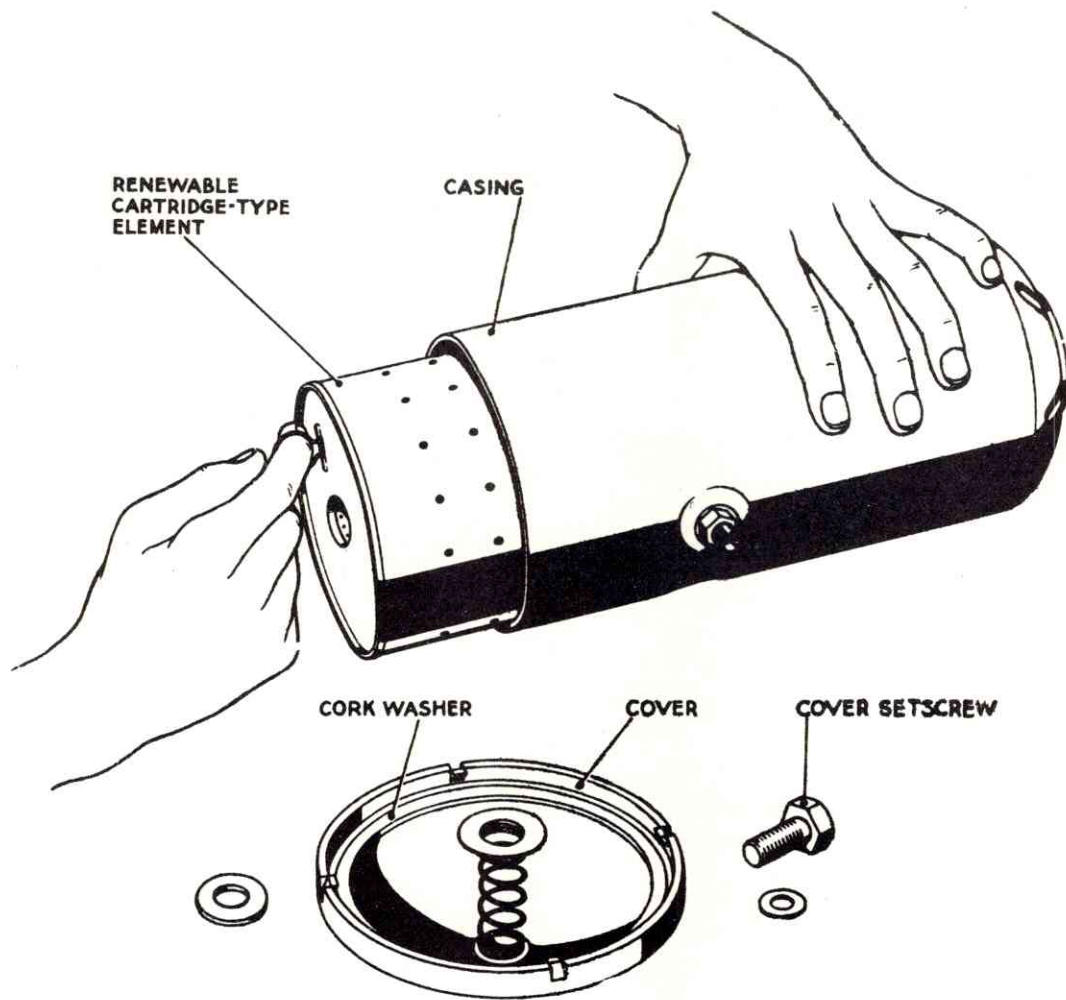
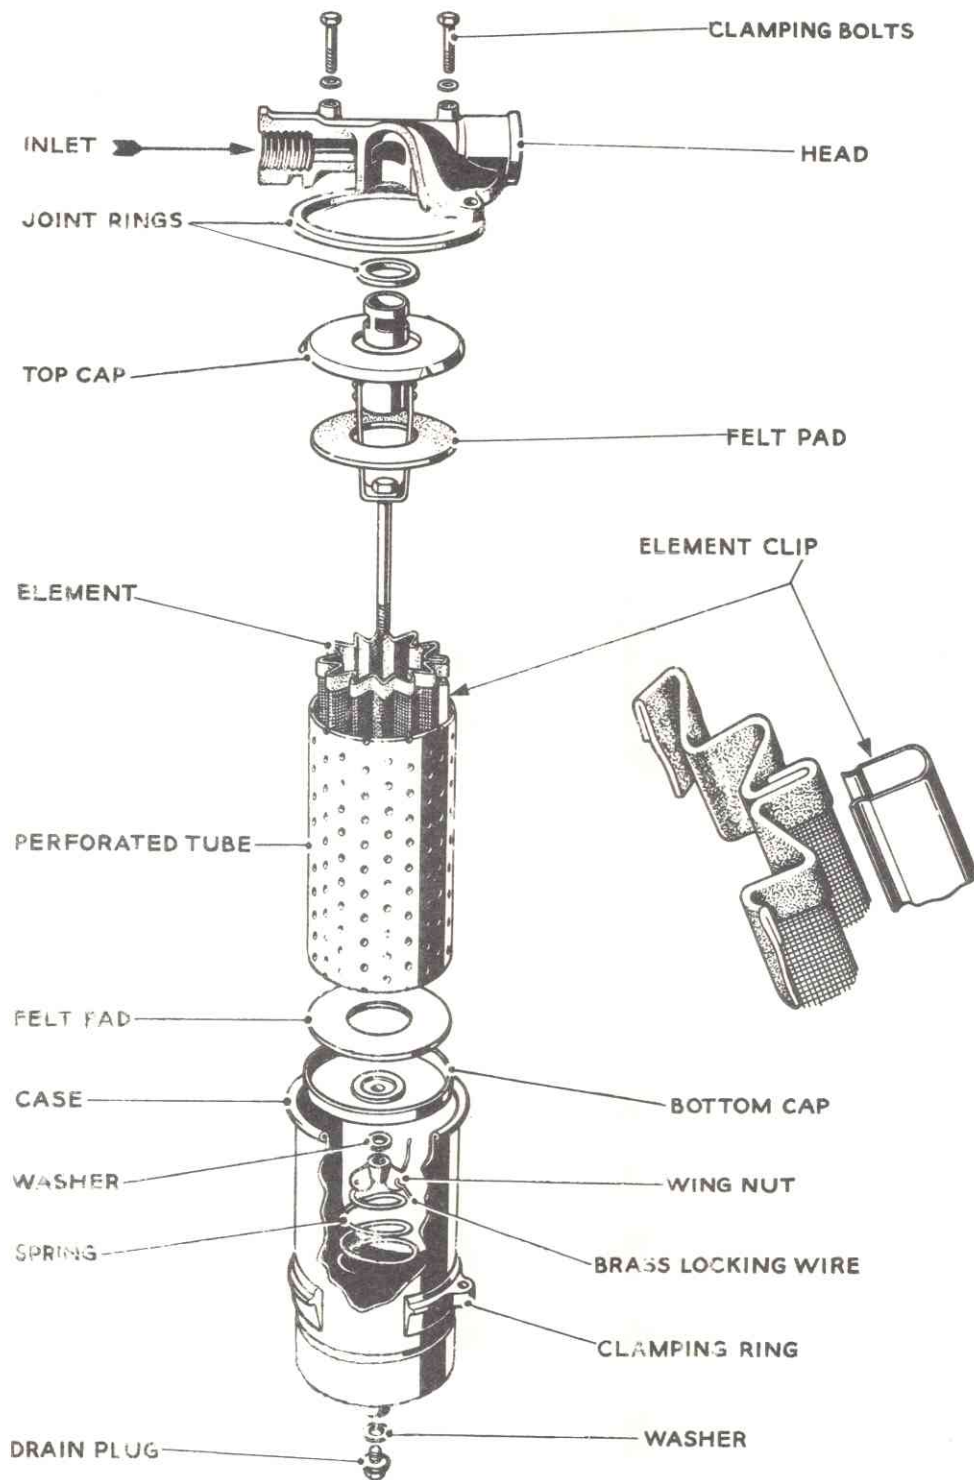

Fig. 13. Lubricating Oil Filter - Type 450
Fig. 14. Lubricating Oil Filter - Type 450
Type 450 cu. in. engine	The British Filters, by pass (Fig. 13) Vokes, full-flow. (Fig. 14)
This type of filter (Fig. 13) is fitted exclusively to type 450 units not equipped for oil cooling.
3. Unscrew the cover setscrew and remove the cover. Pull the element out, see Fig. 13.
Normally it is unnecessary to remove the inlet and outlet pipes or disturb the head from its mounting in order to service this filter (Fig. 14)
1. Bring the edges of the element together and rest one edge inside the other, as shown in Fig. 14, taking care that the ends are in line, and slip the spring element clip over the joint.